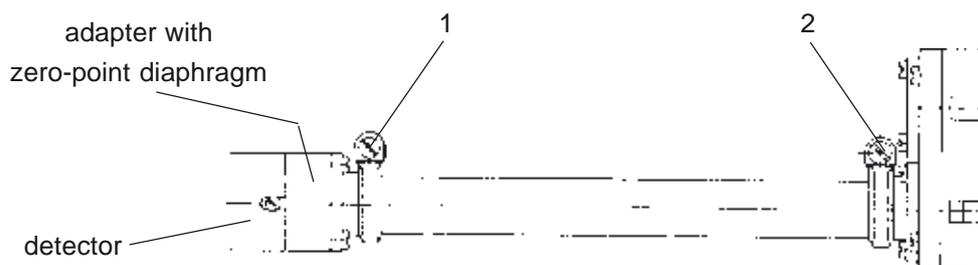

Fig. 17-4: Photometer Assembly (30 mm to 200 mm analysis cells)
- Remove the clamp shown in Fig. 17-4 as Item 1.
- Remove the clamp shown in Fig. 17-4 as Item 2.
- Position the cell body in place and fasten using the clamp shown in Fig. 17-4 as Item 2.
- Install the clamp shown in Fig. 17-4 as Item 1 and tighten.
If the turning of the light source is not sufficient, the zero point can be adjusted by sliding the zero point diaphragm at the lower side of the detectors adapter (Fig. 17-4).